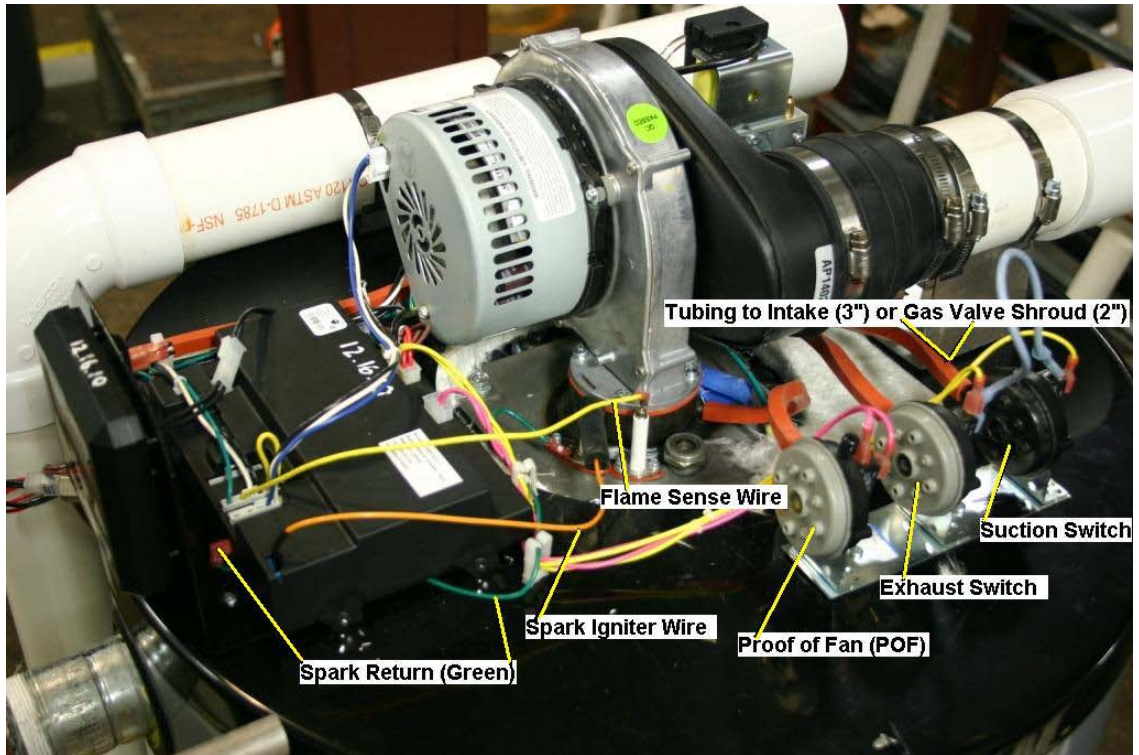

Figure 6
12. Reconnect the flame sensor wire (yellow), igniter wire, and spark relay ground wire (green) harnesses. Ensure that the igniter cable does not contact any other harnesses or heater parts. See Figure 6.